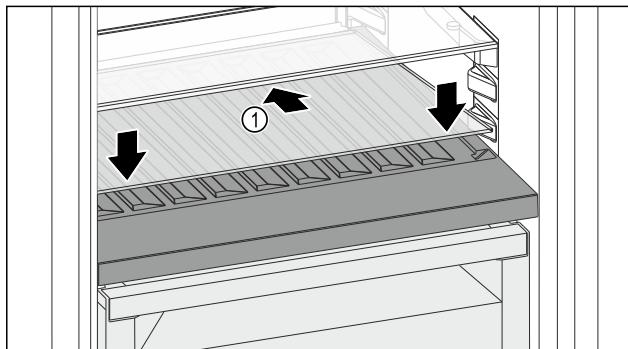

Fig. 110
- ▶ Place the glass shelf Fig. 110 (1) at an angle, tilted back and down.
- ▶ Lower the glass shelf Fig. 110 (1) at the front.